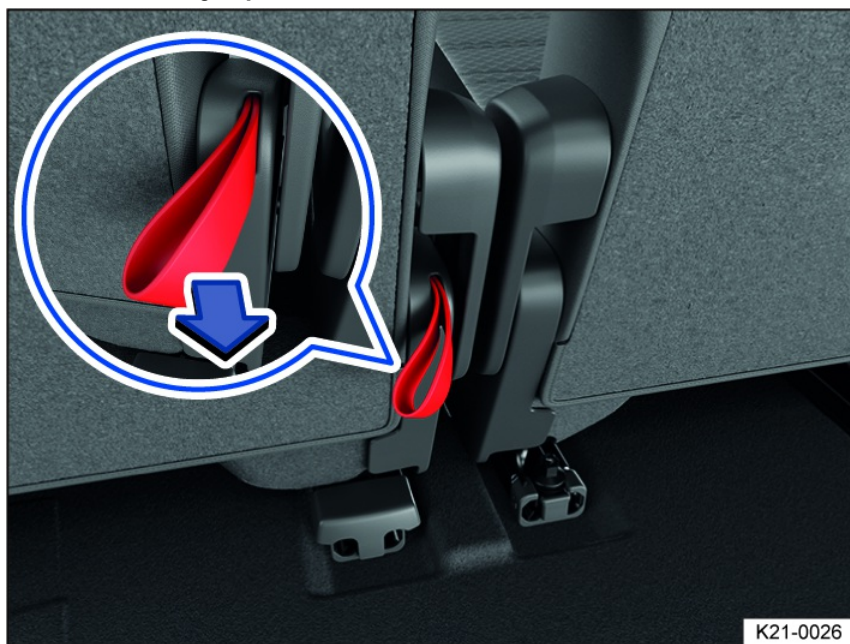

Fig. 91 Second row seats: loop for third row seat emergency exit function.
1. Pull the loop fig. 91 back and fold the rear seat backrest forward.